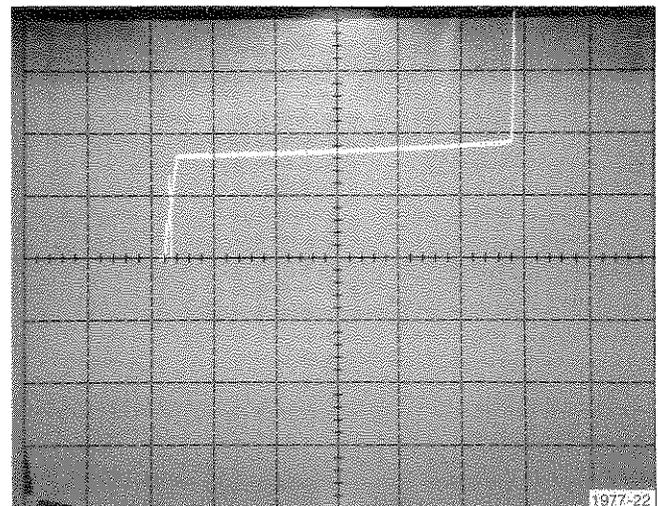

Fig. C-4. - Input bias current display.
c. Check that the vertical display is ≤ 3.75 divisions from the graticule center (≤ 500 nA, see Fig. C-4).